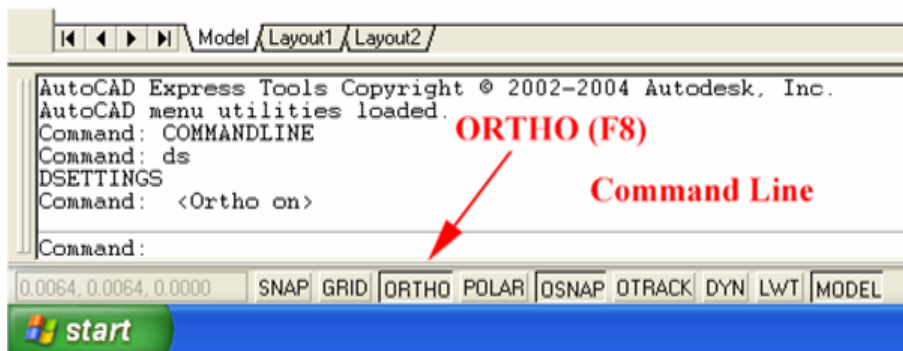

*Figure 1-5N: Turning running Object Snaps on in the Drafting Settings window.*
1. “**Running Object Snaps:**” Too many Object Snaps turned on will cause confusion when picking up a needed Object Snap; therefore, turn on only the most frequently used **Object Snaps** as “running **Object Snaps**” in the **Drafting Settings** window, under the **Object Snap** tab. To open this window, type *ds* in the **Command Line** and press the **Enter** key on the keyboard; click the  check box between the symbols and the names of the Object Snaps (check marks are placed in the boxes as ), and on the left of **Object Snap On (F3)** text to turn “running **Object Snaps**” on; click the **OK** button to set the parameters and close the window (See *Figure 1-5N*).